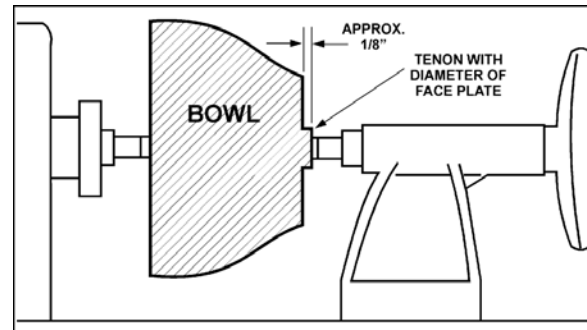

Figure 38
8. Turn a short tenon (about 1/8" long) the size of the hole in the faceplate. See Figure 38. This will allow centering the workpiece when the faceplate is attached.
- Use the left hand to control cutting edge of gouge, while right hand swings tool handle around toward your body (Figure 38). The flute should start out facing top of workpiece, and rotate upward as it moves deeper into the bowl to maintain a clean even curve. As the tool goes deeper into the bowl, progressively work out toward the rim. It may be necessary to turn the tool support into the piece as you get deeper into the bowl.